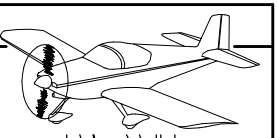

FIGURE 1: RIVETING THE INSPAR RIBS
Step 1: Put both HS-1001 Skins back in the cradles. Cleco all the HS-905 Nose Ribs in place, then rivet them to the skins using the rivets shown on Page 8-14, Figure 1.